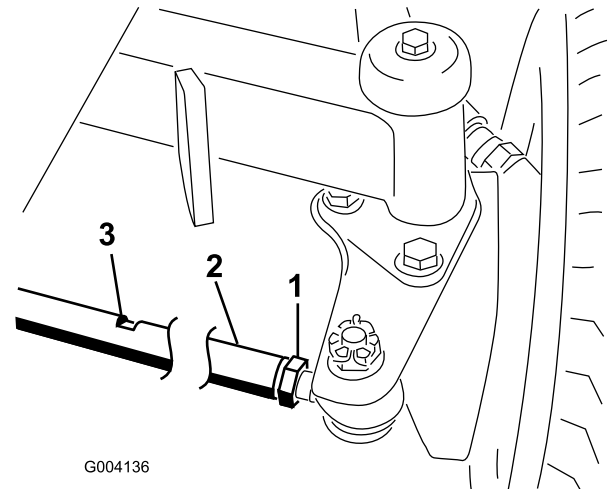

Figure 51
2. Loosen the jam nut on each end of the tie rod (Figure 51).